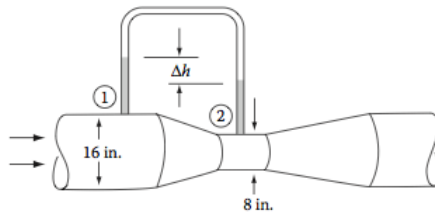

FIGURE P3.49
- 3.49** A venturi meter is a device placed in a pipeline and is calibrated to give the volume rate of liquid through it as a function of pressure drop (see Figure P3.49). For a flow rate of $4 \text{ ft}^3/\text{s}$ through the $16 \times 8 \text{ in.}$ meter shown, determine the reading Δh on the manometer. Assume that the liquid in the meter and in the manometer is water.